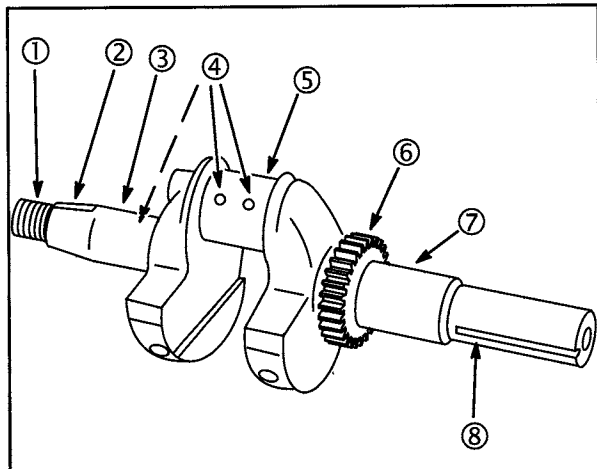

Fig. 1
Inspect crankshaft threads (1) and keyways (2, 8), **Fig. 1**. Replace crankshaft if threads or keyways are damaged or worn. Check magneto (3) and PTO (4) journals for scoring. Measure journals for wear. Replace crankshaft if journals are scored, or worn past reject sizes listed in Section 13.